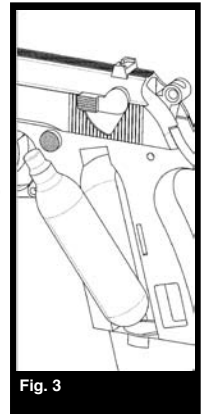

Fig. 3
- Insert the CO2 cylinder into the grip, bottom end first, with the small neck of the CO2 cylinder pointing upward toward the slide (Fig. 3).